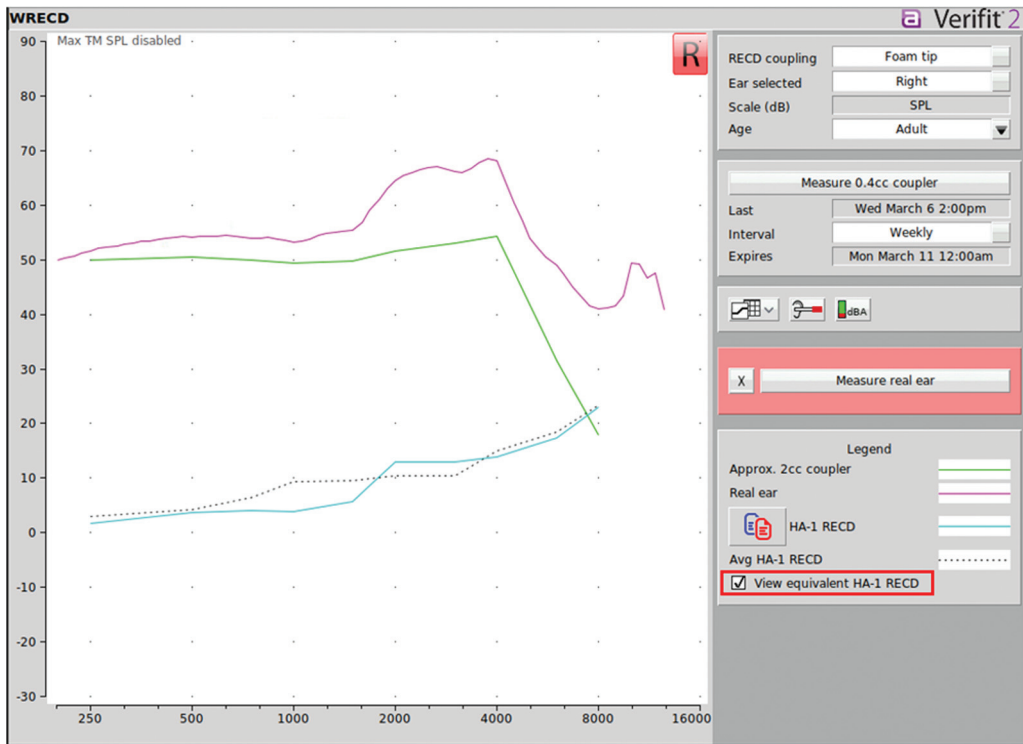

Figure 6 Equivalent HA-1 RECD (accessed by clicking the checkbox highlighted in the bottom right corner).
information through 8,000 Hz). If you want to make a comment about the size of an individual's ear in comparison to a 2-cc coupler ("average"), you need to first convert the WRECD data to RECD data. Fortunately, the Verifit 2 provides an easy and efficient way to make this conversion (Figure 6) and an easy way to compare the numbers in table format (Figure 7).
If the SPL measured in the real ear is louder than the SPL measured in the 2-cc coupler (i.e., more sound pressure build-up in the individual's ear than in the 2-cc coupler) as in the example illustrated in Figures 6 and 7, then we can assume that the individual's ear is smaller than the 2-cc coupler. RECD, however, is a measure of SPL, not size. When the system converts the dB HL audiometric data (thresholds and UCLs) to dB SPL, this difference (along with RETSPL, reference equivalent threshold in sound pressure to 2-cc coupler; see Chapter 3) will be used for this accurate conversion. This will now provide you with the individual's dynamic range in dB SPL and will allow for accurate fitting targets to be generated. If RECD is not obtained and applied to the audiometric data, the hearing aid may be over- or under-fit without the clinician knowing.
2. Convert your WRECD results to equivalent HA-1 RECD (Figure 6). Given the RECD values that you measured, do you think that average RECD values would have produced different results regarding the hearing aid fitting?